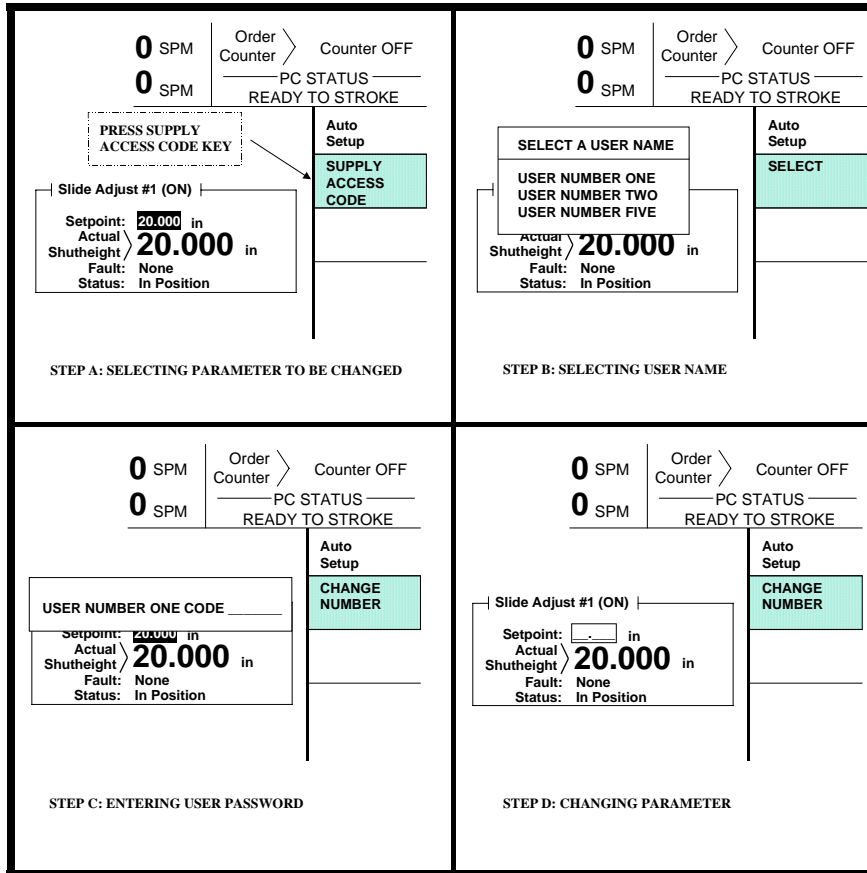

Figure 2-2 Example Password Entry
Figure 2.2 displays a typical password entry sequence. This example shows the steps necessary to change a slide adjust setpoint. This is typical for password entry for all restricted items.
- Step A: Select the restricted item. In the example shown in Figure 2.2 the restricted item is Slide Adjust #1 setpoint. Once the parameter is selected then Softkey # 1, the upper vertical softkey (Softkey # 1 is highlighted in Figure 2.2), will display the legend “SELECT”.
- Step B: A list of users that have access to this restricted item will appear. In the example shown in Figure 2.2 only User Number One, User Number Two, and User Number Five have access to this restricted parameter. The system may have several more users, but the three users listed on the screen are the only users that have access to change an Auto Setup Setting. The user must use the arrow keys to position the cursor on his user name. After placing the cursor on the correct name, the user must press the SELECT softkey. The SELECT softkey must be pressed even if there is only one user name displayed.
- Step D: Upon entry of the correct password, the user will be allowed access to the restricted item. In the example shown in Figure 2.2, the user will have access to change the Slide Adjust #1 setpoint.